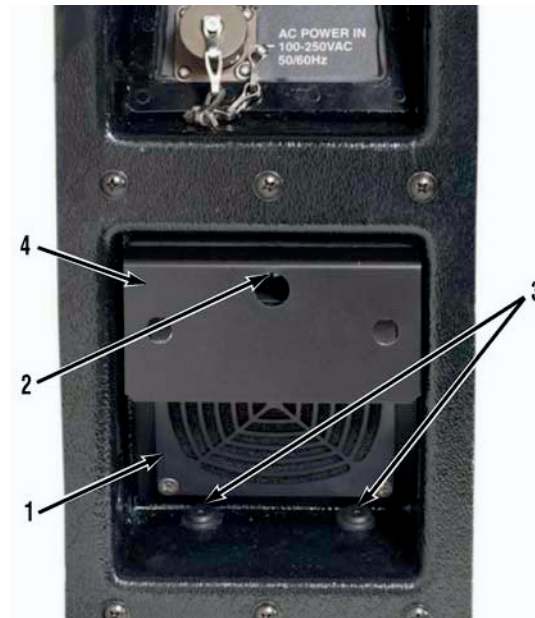
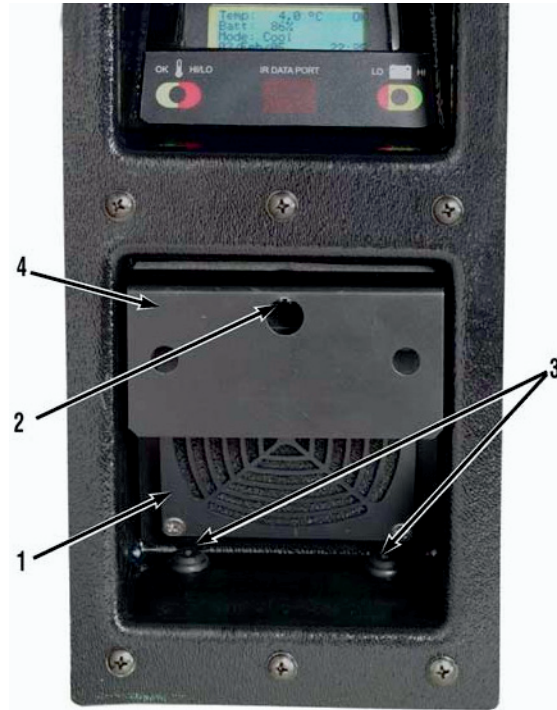

Figure 60. Power Panel Air Filter
Figure 61. Display and Control Air Filter
One filter is located below the power panel (item 1, Figure 60) and the other filter is located below the control panel display (item 1, Figure 61).
1. Insert a 1/4-inch flat-bladed screwdriver through the hole in the handle (item 4) of the display and control panel filter (item 1).
2. Turn the slotted quarter-turn stud (item 2) one quarter-turn counterclockwise to unlock the filter (item 1).
3. Grasp underneath the filter handle (item 4) and pull outward.
4. Repeat steps 1. through 3. for the display and control panel air filter (Figure 61).
1. Place the bottom edge of the filter (item 1, Figure 60) into the power panel behind the two inner bezel rivets (item 3).
2. Ensure that the slot in the quarter-turn stud (item 2) is vertical, and then push the filter (item 1) firmly inward.
3. Insert a 1/4-in flat-bladed screwdriver and turn quarter-turn stud (item 2) clockwise until it is fully engaged.
4. Pull on the filter handle (item 4) to make sure the filter (item 1) is locked in place.
5. Repeat steps 1. through 4. for the display and control panel air filter (Figure 61).